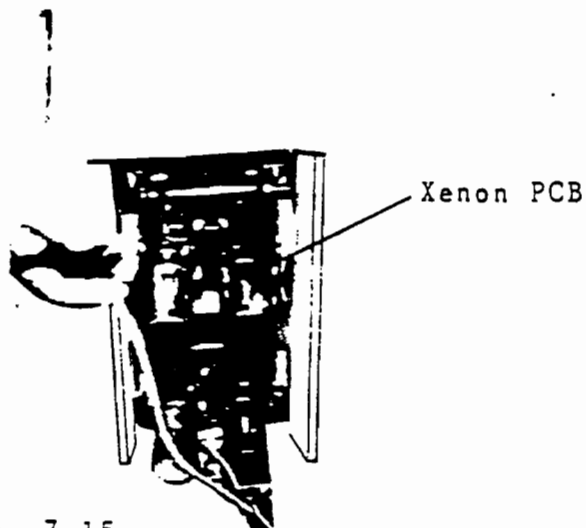

fig. 7-15
(7) Replacing the Xenon PCB
- ① Open the gun console board and remove the PCB cover (B) of the xenon PCB to be replaced (M5 cap screw : 1).
- ② Disconnect the connector (4P, 3P) on the xenon PCB, and pull out the xenon PCB to replace. [Ref. Fig. 7-15]
- ② Remove the PCB cover (B) of the xenon PCB to which the xenon lamp assy to be replaced is connected (M5 cap screw : 1) and pull the connector (3P) off. [Ref. Fig. 7-15]